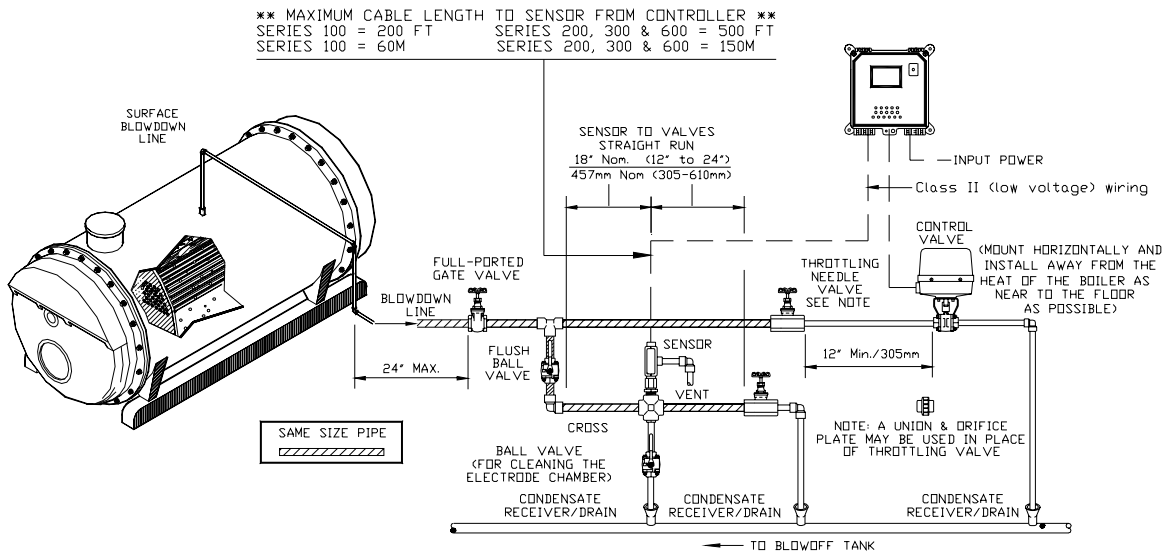

Figure 2 – Continuous Mode Example
The Controller set-up should be per installation diagram (see *Figures 2 and 3*). Make sure all fittings and connections are secure:
3. Open the ball valve to drain water from the sensor housing; to insure no water or pressure is present in this part of the assembly (refer to *Figures 2 and 3*).